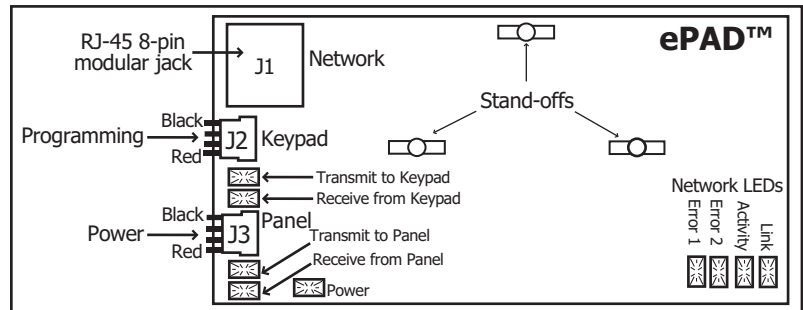

Figure 3: ePAD PCB
1. Turn the standoff nearest the edge parallel with the ePAD edge so the ePAD easily fits in the panel enclosure. See Figure 3.
Refer to Figure 3 for the LED locations.